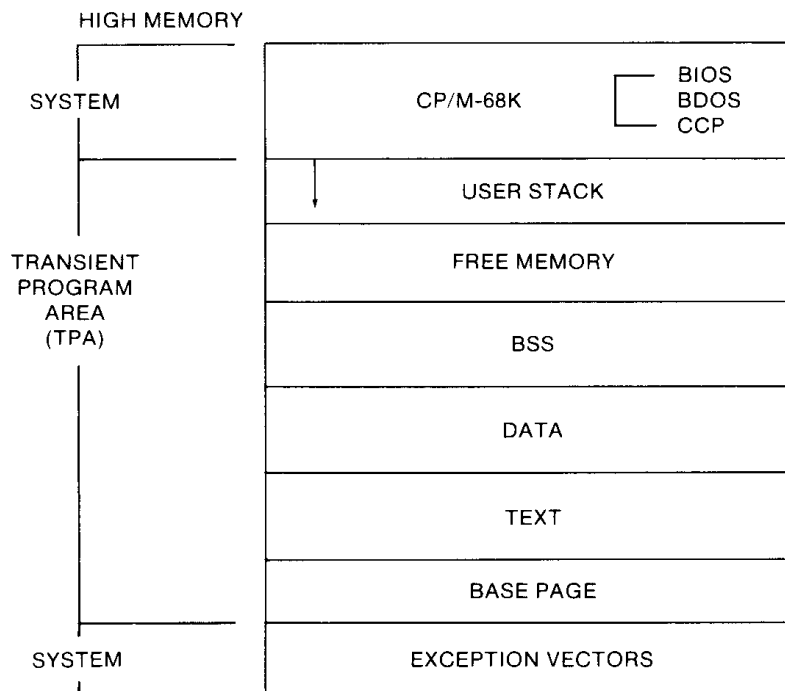

Figure 2-2. CP/M-68K Default Memory Model
The memory model shown in Figure 2-2 illustrates the normal configuration of the CP/M-68K operating system after the CCP loads a transient program. CP/M-68K divides memory in two categories: System and the Transient Program Area (TPA).
The TPA consists of contiguous memory locations that are not occupied by the CP/M-68K operating system. A user stack, a base page, the three program segments (a text segment, an initialized data segment, and a block storage segment (bss)) exist for each transient program loaded in the TPA. The BDOS Program Load Function (59) loads a transient program in the TPA. If memory locations are not specified when the transient program is linked, the program is loaded in the TPA as shown in Figure 2-2.